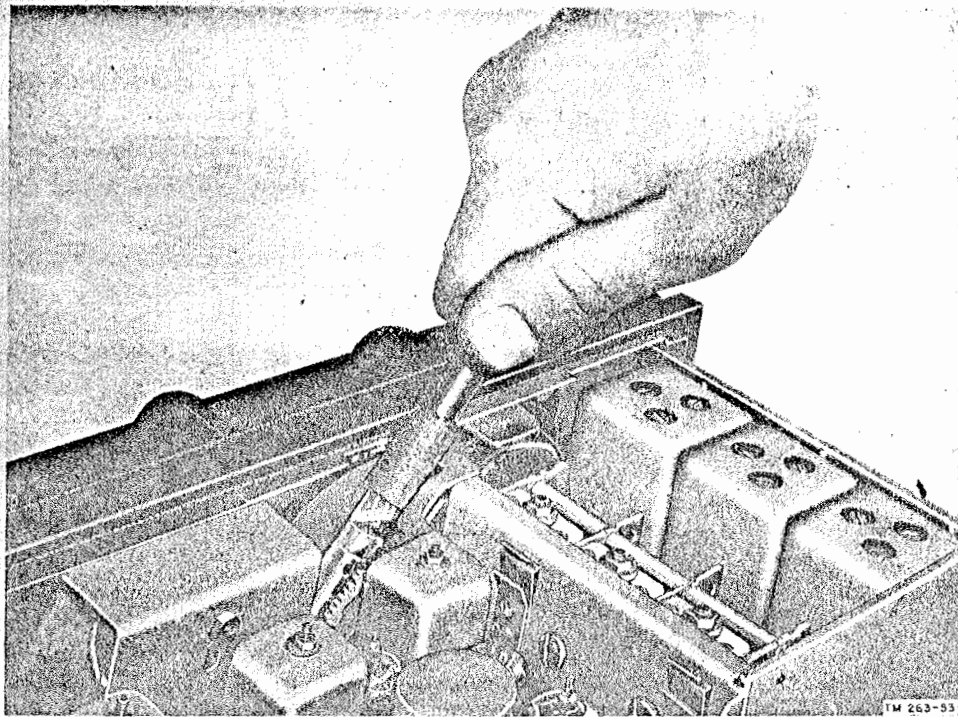

Figure 40. Removing pilot lamp.
c. There is only one crystal to be inserted. To remove the crystal, insert a screw driver between bias cell BT1 and capacitor C55 and gently pry the crystal upward, and, at the same time, pull it with the fingers. The dial light lamp may be removed by using the pilot lamp puller contained in Box BX-53 of carrying Bag BG-172 (fig. 40). Always remove the pilot lamp from the puller by pulling on the glass bulb and not the brass bayonet pin base.